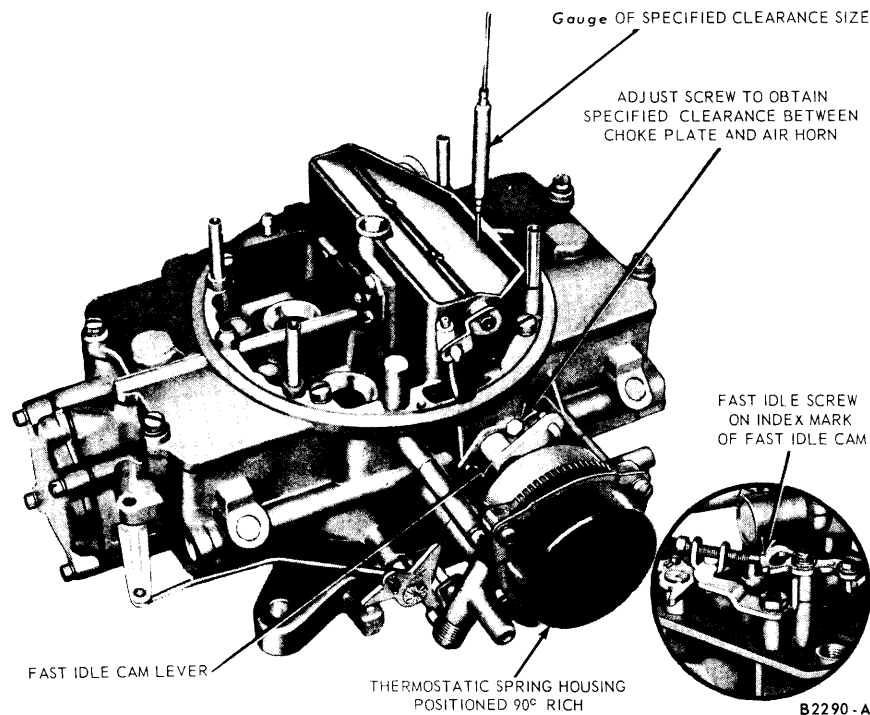

FIG. 7—Fast Idle Cam Linkage Adjustment
6. Position the fast idle (rpm) adjustment screw on the index mark of the fast idle cam (Fig. 7).
7. Turn the choke thermostatic cover 90° rich (counterclockwise) and check the clearance between the front of the choke plate and the air horn (Fig. 7). Adjust the clearance to specification (Part 10-6), if required. Turn the fast idle cam lever adjusting screw clockwise (inward) to increase the clearance and counterclockwise (outward) to decrease the clearance. Make certain the fast idle screw remains on the index mark (kickdown step) of the fast idle cam during